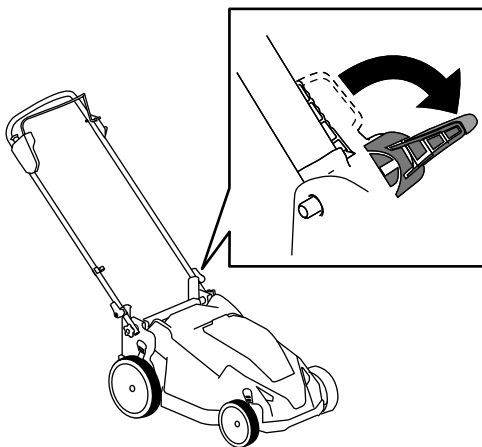

Figure 19
3. Disengage the handle locks (Figure 19).
2. Disengage the handle locks until you can move the upper handle freely (Figure 19).